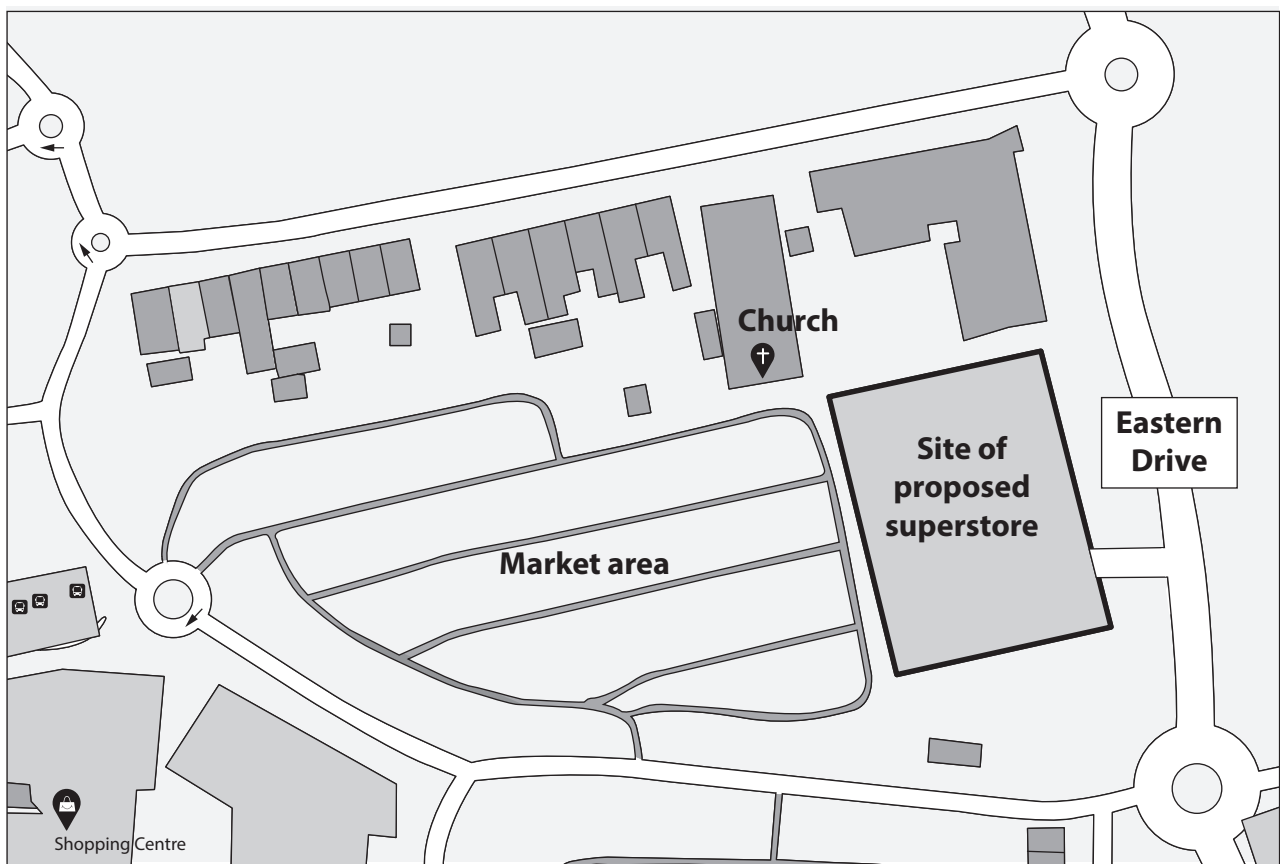

Figure 3: Site plan
- The development site is located in a market town. The site is rectangular and is 100 m × 40 m. A site plan is included in Figure 3.